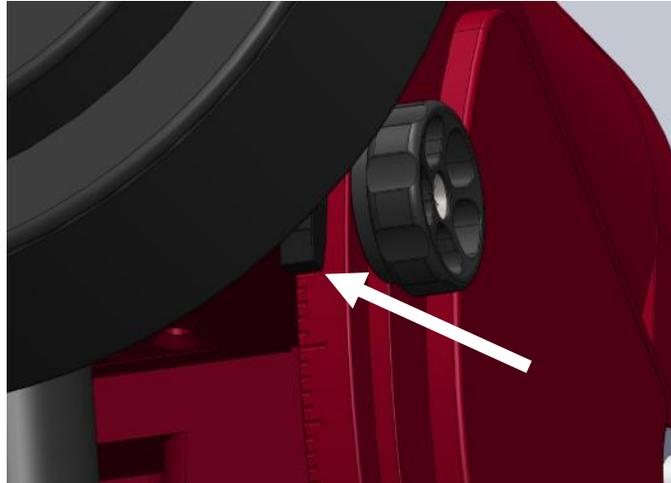
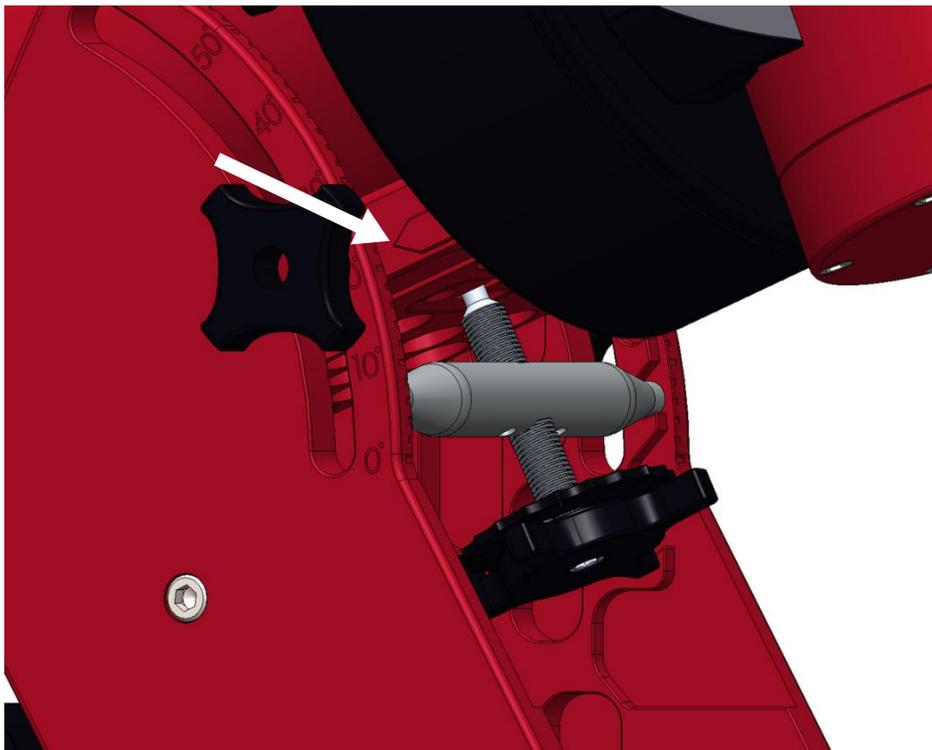

Figure 60: The tic mark that is aligned with the bottom of the altitude reference block marks the Paramount ME polar axis altitude.
Figure 61: The arrow machined into the hour angle base plate points to the altitude of Paramount MYT and MX polar axis.
The altitude of the mount's polar axis can be determined by looking at the intersection of the bottom of the altitude reference block and the nearest tic mark on the altitude scale (Paramount ME, Figure 60), or the machined arrow on the base of the Paramount MYT and MX hour angle housing Figure 61.
3. Align the arrow that is machined either side of the hour angle housing base (Figure 61) with the tic mark that is close to the observing site's latitude, and then insert the stainless-steel bar into the nearest slot.